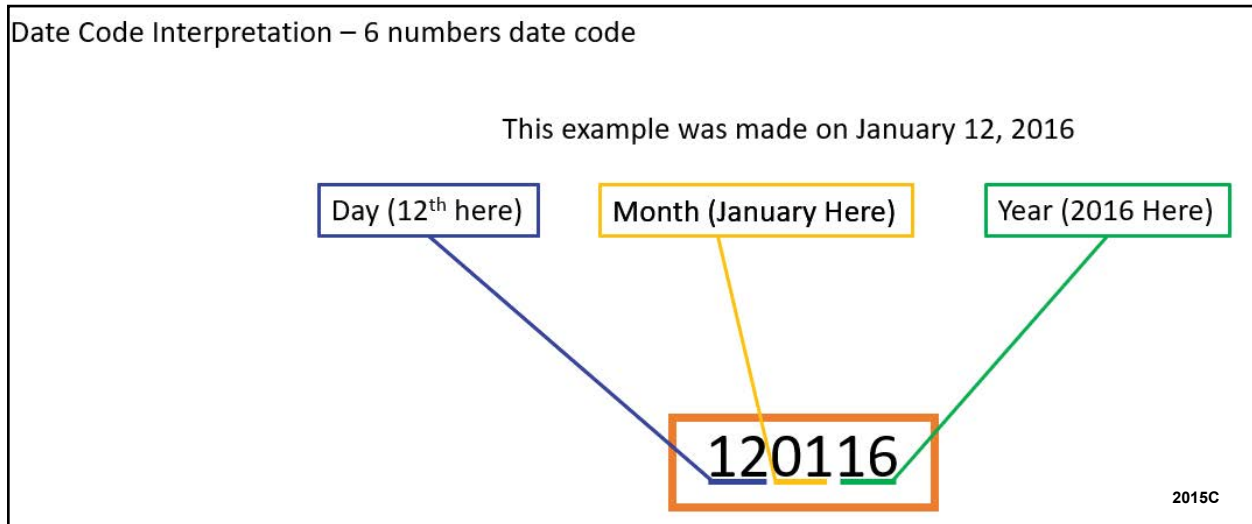

FIGURE 4
7. Using Figure 4 below, decode the 6-digit numeric date code. Record the decoded date and proceed to Step 10.